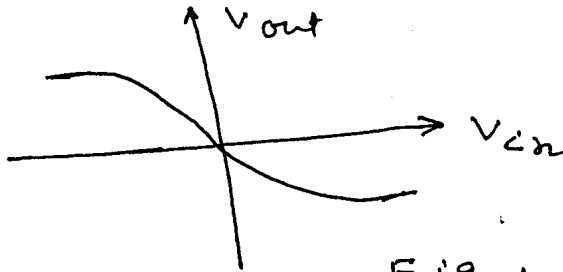

Fig. 1
b) For square-law MOS transistors operating in saturation, the characteristic of the figure below can be express as [Ref. Fig. 1]